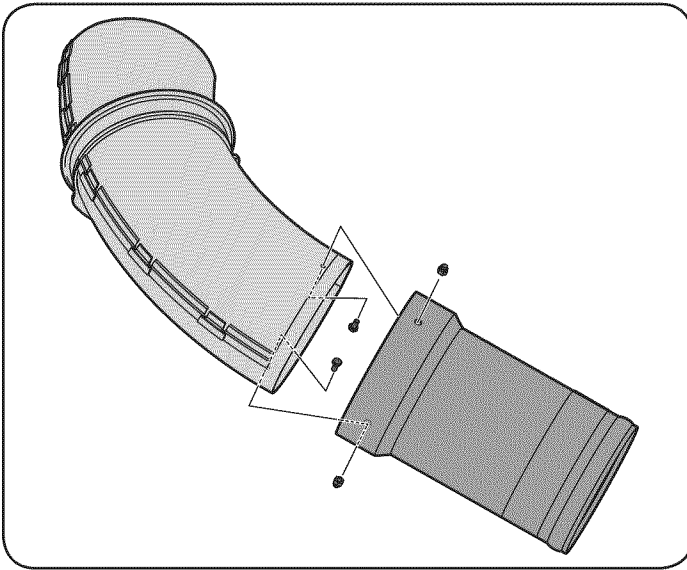

Figure 16
4. Install the upper chute tube into the wide end of the extension tube and secure the tubes together using two (710-3013) hex screws and 712-0442 cap lock nuts, included in hardware pack 689-00342. See Figure 16.